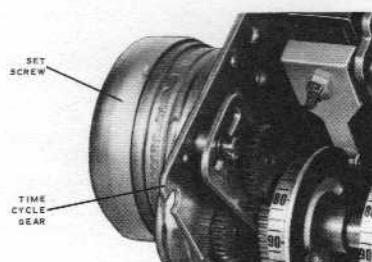

Fig. 11 - Multi-Cam Timer Showing Time Cycle Gear
- (b) Remove the setscrew next to the clock motor and install the new gear. (Fig.11). Be sure to replace the screw.